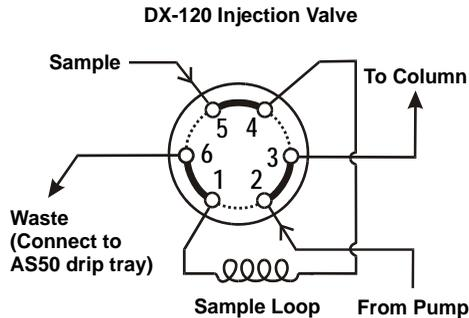

Figure B-11. DX-120 Injection Valve Schematic
2. Disconnect the sample line from port 5 on the DX-120 injection valve (see Figure B-11).